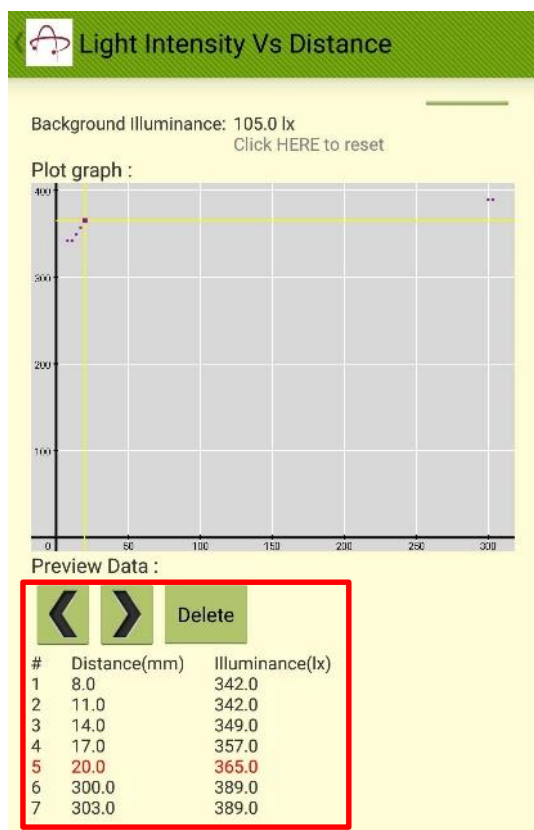

Fig 5.23
- You can check the data recorded in the table at the bottom of the interface (Fig 5.23).
- Under the “Preview Data”, you can press the “Left/Right Arrow” to pick the desired data point, shown as red. Undesired data point can be deleted by pressing “Delete” button. Note that the “Delete” action is irreversible. In Fig 5.24, the 3rd and the 4th data point from Fig 5.23 are deleted.